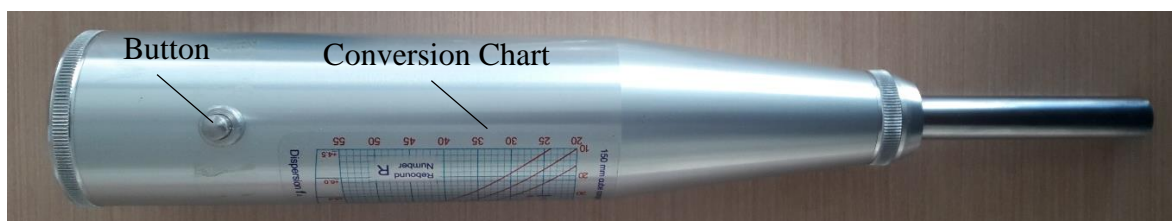

Figure 3: Button and Conversion Curve
4. After tapping, lock Hammer by press the Button only after impact and remove the device to a convenient place in order to read Scale because it is difficult to see the reading under the conditions specified under the conditions specified in the Step 3 (See Figure 3).